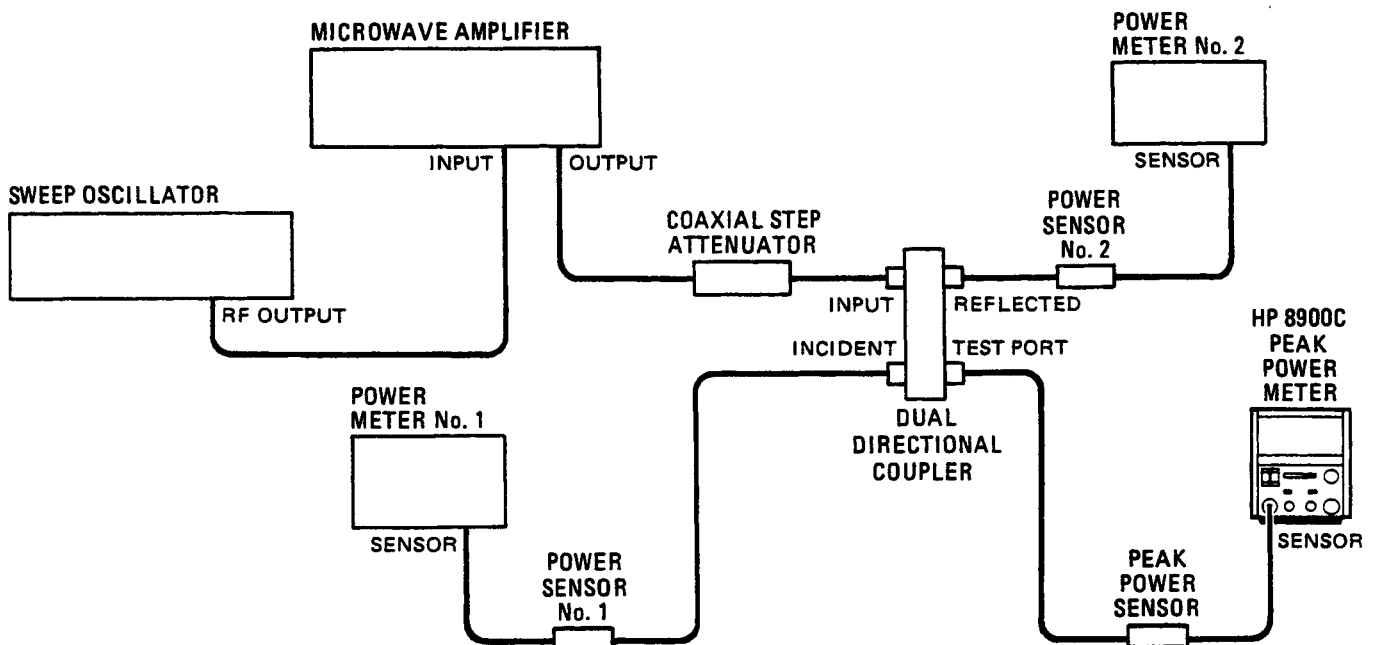

Figure 4-1. Peak Power Sensor Performance Test (Return Loss)
1. Set the coaxial step attenuator to 11 dB of attenuation. Connect the equipment as shown in Figure 4-1. Allow at least one half hour for the equipment to warm up. Then before doing the performance test, be sure the test port output of the coupler is less than 100 mW.